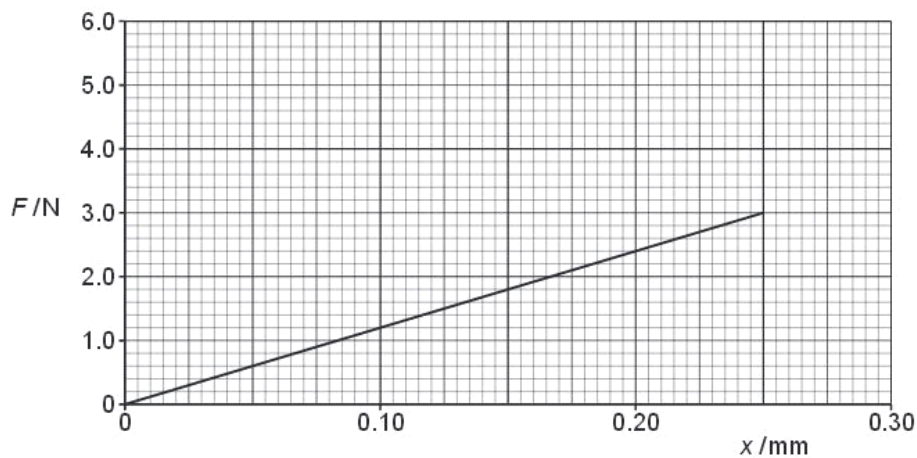

Fig. 5.1
- (b) A load F is suspended from a fixed point by a steel wire. The variation with extension x of F for the wire is shown in Fig. 5.1.
- (i) State two quantities, other than the gradient of the graph in Fig. 5.1, that are required in order to determine the Young modulus of steel.
- (iii) A load of 3.0N is applied to the wire. Use Fig. 5.1 to calculate the energy stored in the wire.
On Fig. 5.1, sketch the variation with x of F for the copper wire for extensions up to 0.25mm. The copper wire is not extended beyond its limit of proportionality. [2]